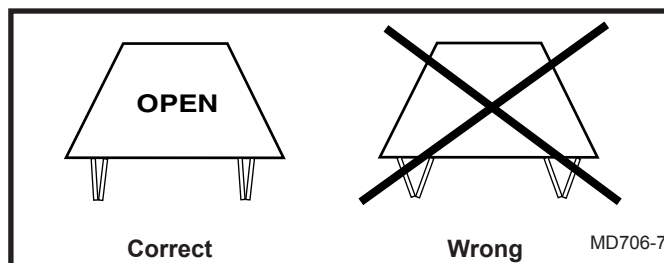

Fig. 12 Correct door position during operation.
**NOTE:** If glass doors are installed, the unit must be operated with the doors fully open. (Fig. 12) If the doors are not fully open, the thermodisk will automatically turn the unit off.